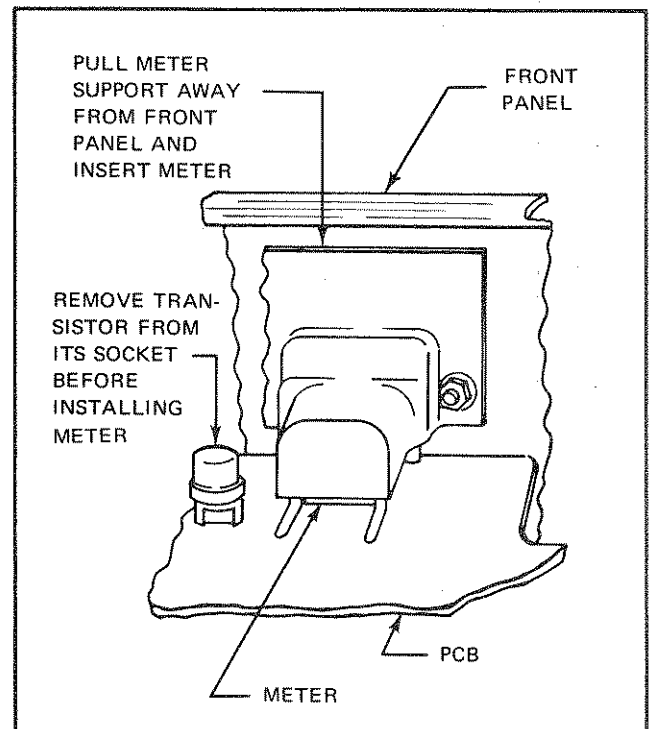

Figure 6-8. BATTERY OPTION METER INSTALLATION.
f. Refer to Figure 6-8 and install the meter by performing the following steps:
5. Using a length of the tinned copper wire, connect and solder the left meter lug (viewed from rear) to the hole in the PCB which is located just below the lug (see Figure 6-8). In like manner, connect and solder the right meter lug to the right-hand hole.